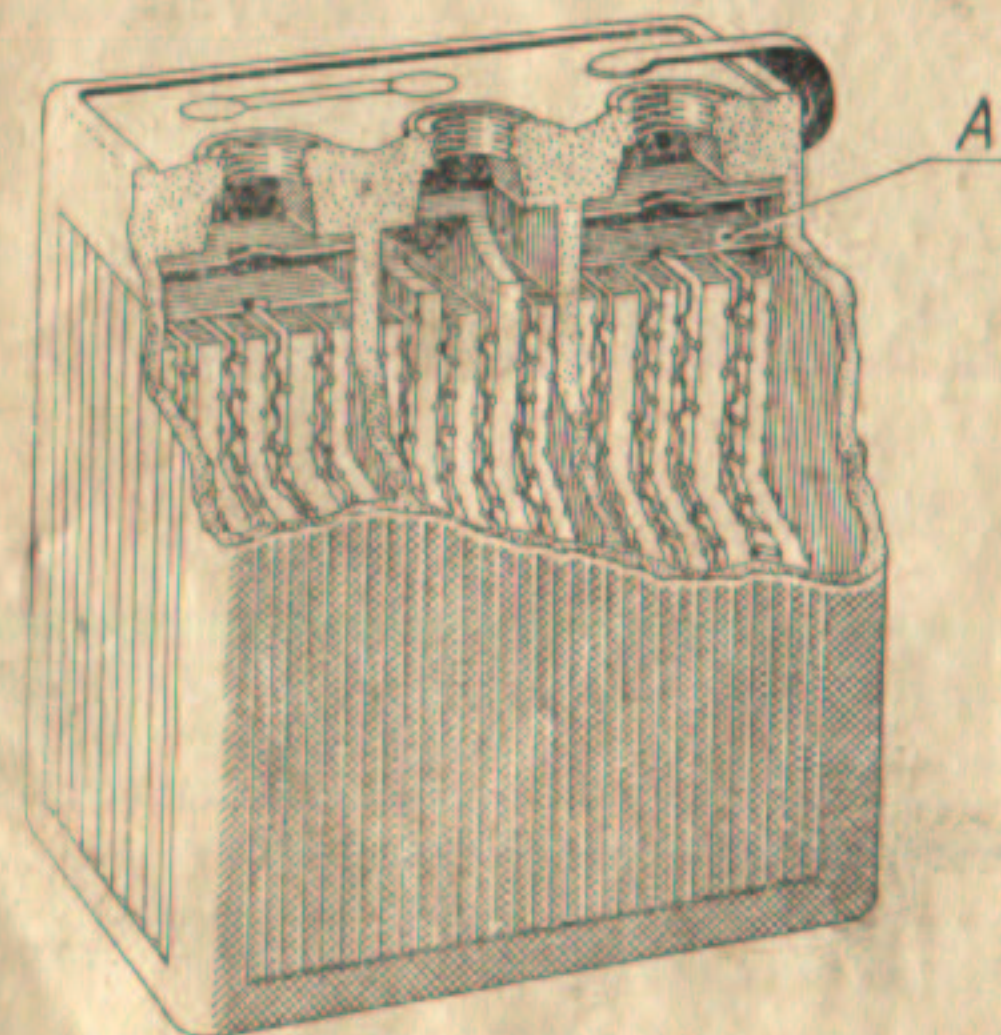

Fig. 30 - Correct electrolyte level in the battery
2. Top up the battery not higher than to the first separator above the plates (see Fig. 30 - the separator A). Excessive electrolyte could be sucked off to the prescribed level by means of the small suction balloon. If this advice is not followed excessive acid may overflow when riding and cause damage to the box and exhaust silencer.
1. Remove the inserts under the plugs or the strip on the plugs. Fill in all cells with **chemically pure** sulphuric acid (do not use technical acid) diluted with the distilled water to the density of 1.28 (in tropical regions to 1.23). Never fill the electrolyte higher than **up to the first separator** above the plates (see Fig. 30 - separator A).
2. Check the electrolyte level by means of suction balloons every two months at least and if required top up distilled water to the prescribed level - **not higher** (see Fig. 30 - separator A).